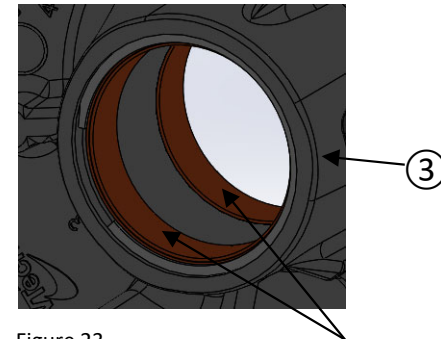

Figure 23
- Check for wear marks on the cam ⑧.
- Check for wear marks on the spring ⑥.
- Check the wear of the sliding sheave ③ bushings (visual inspection only, figure 23). If there is excessive wear, you must replace the whole sheave assembly ③.
The bushings cannot be removed from the sliding sheave ③ (figure 23).